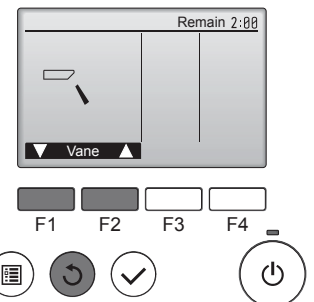

Fig. 5-6
- ① Check the auto vane with the **F1** **F2** buttons. (Fig. 5-6)
- ② Press the button to return to "Test run operation".
- ③ Press the button.